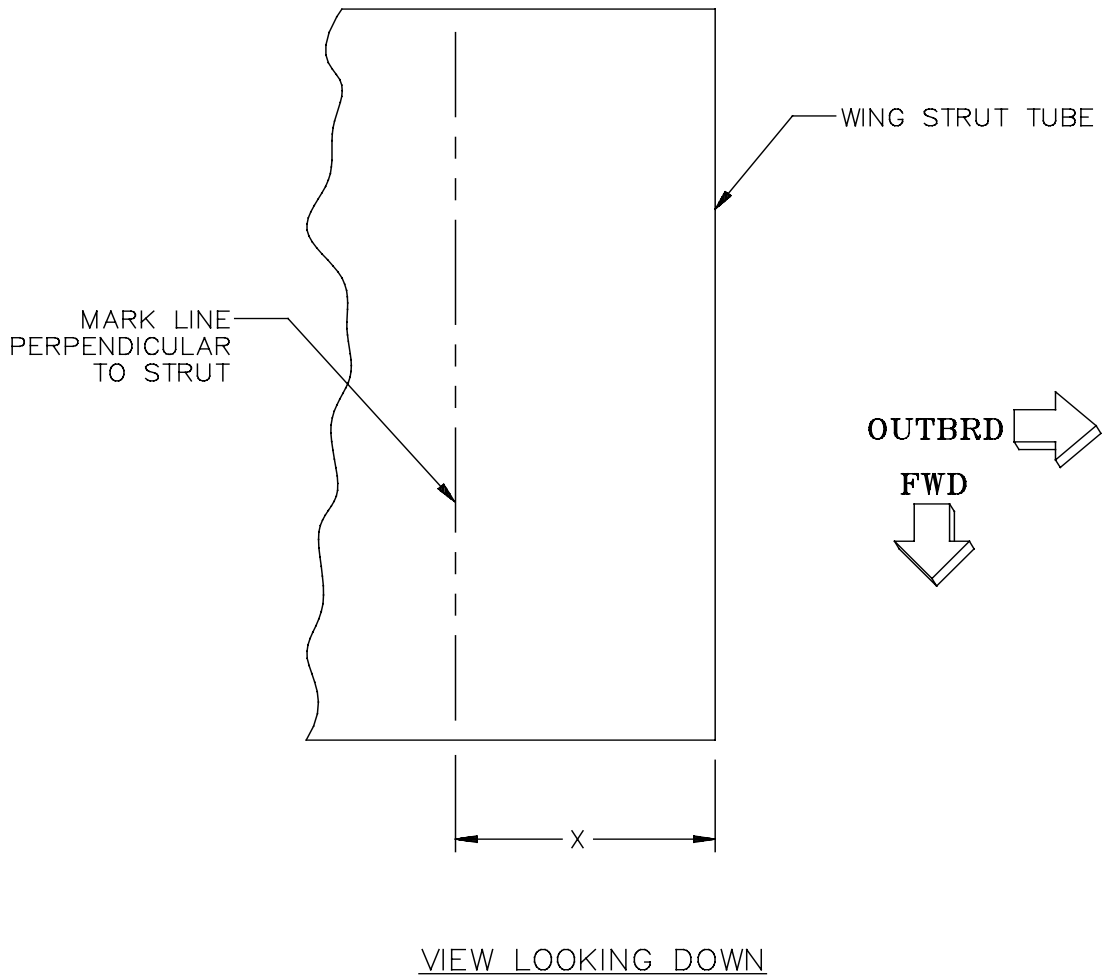

Figure 69: Marking the Distance Determined in Step C onto the Wing Strut
- D) Measure from the **outboard** end of the wing strut the distance X determined in Step C, and mark a line onto the **upper** surface of the strut perpendicular to the length of the strut, as shown in Figure 69. Use a fine-point felt-tip pen to make the mark.